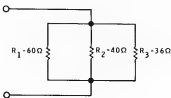

Figure 1-92
20. What is the total resistance of the circuit of Figure 1-92?